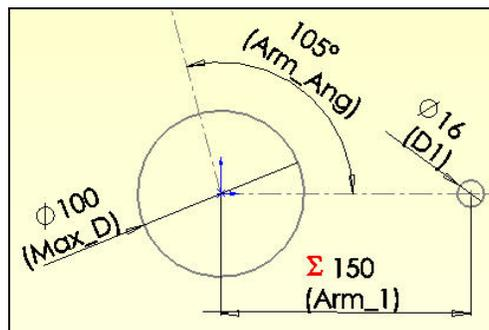

Figure 7 Dimension Arm_1 is governed by an equation
- Rebuild**, verify that the equation symbol, Σ , appears before the dimension value (Figure 7).